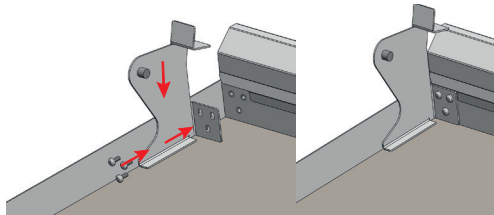

Figure 14. Assembly of the left cover hinge (left) and plate with the left hinge screwed on (right).
- **Screw on one of the hinges (Fig. 14).** Place the hinge on the plate as in Fig. 14 and then screw it on to the flue with three bolts (M5x12 bolts included in the set)
- **Screw on the other hinge. Caution! This should be carried out by at least two people!** Hold down the lid so that it does not fall down, then tighten the second hinge to the flue with the three M5 x 12 bolts supplied (see Fig. 14).